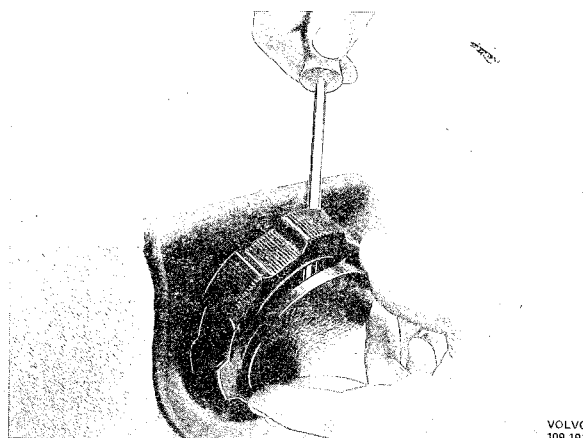

Fig. 8-54. Removing hand wheel cover
4. Use a screwdriver to press out the hand wheel cover through one of the hand wheel holes. See Fig. 8-54.